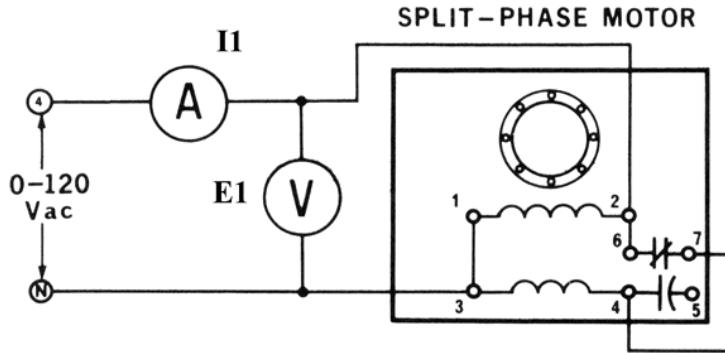

Figure 6-6
- 11) Connect the circuit as shown in Figure 6-6.